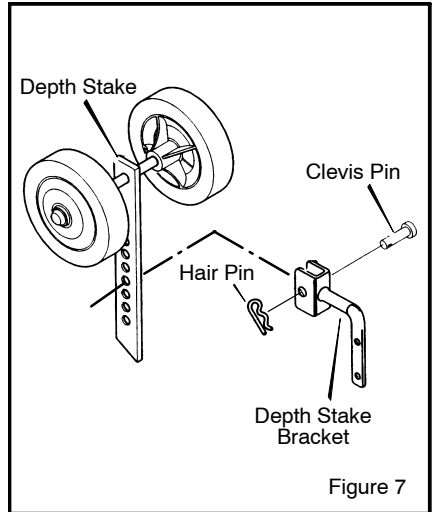

Figure 7
1. Remove the **hairpin** and the **clevis pin** from the **depth stake** or **depth rod** (see Figure 7).